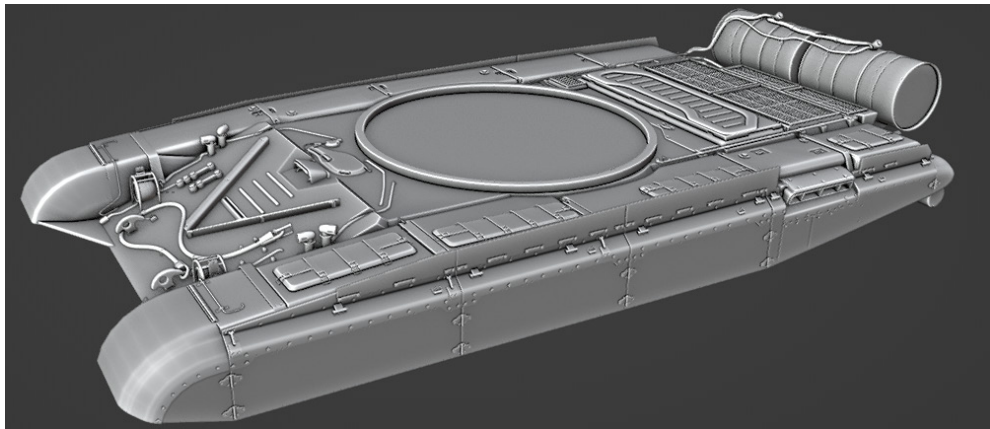

Figure 8.67 – The finished hull
*Figure 8.67* shows the finished T-72 hull.